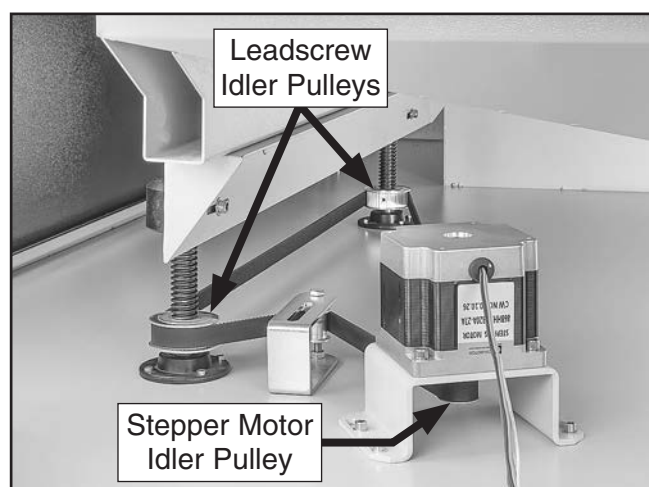

Figure 91. Synchronous belt around pulleys.
14. Install replacement synchronous belt around front and rear leadscrew idler pulleys, and stepper motor idler pulley (see **Figure 91**).